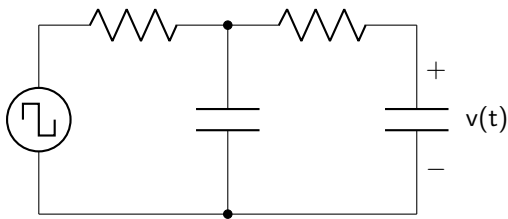

Figure 10.2: RC circuit diagram.
2. Is figure 10.2 a first order or second order circuit? How do you know?